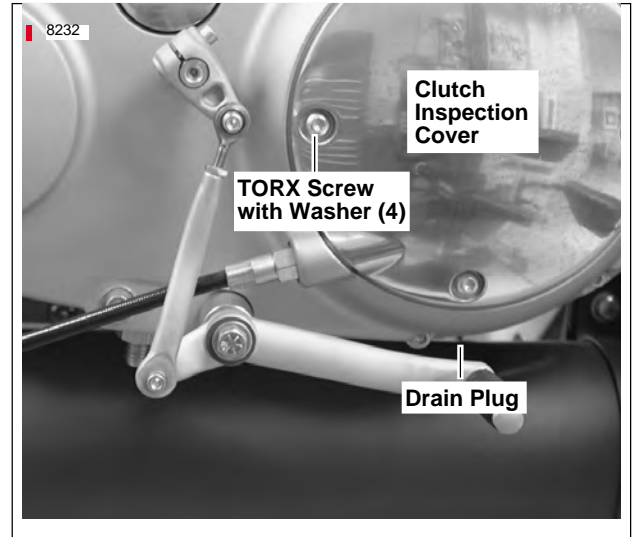

Figure 1-17. Primary Cover
3. See Figure 1-17. Position a suitable container under drain plug (3). Remove plug and drain fluid.
5. Remove four TORX screws with washers (1) from clutch inspection cover (2). Remove clutch inspection cover from primary cover. Do not damage or dislodge Quad ring from primary cover.
7. See Figure 1-17. Install clutch inspection cover (2) using four TORX screws with washers (1). Tighten in a cross-wise pattern to 7-9 ft-lbs (10-12 Nm).